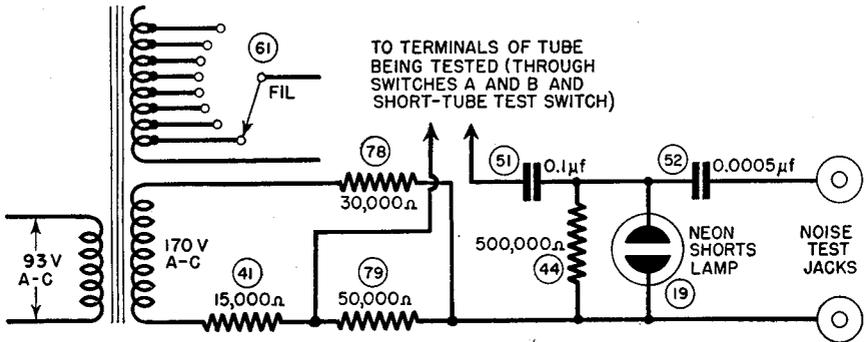

Figure 3. Tube Tester I-177, simplified noise and shorts test circuit.
**14. SHORT TEST (fig. 3).** Turning the SHORT-TUBE TEST switch through positions 1, 2, 3, 4, and 5 connects various pairs of tube electrodes in turn across the test terminals of the circuit. Tubes having shorts between elements complete the circuit and apply transformer voltage to neon SHORTS lamp 19, causing it to glow. Good tubes do not complete the circuit, and the lamp does not glow. Switches A and B (not shown) provide the proper tube socket connections for the tube under test, and the FIL. switch connects the tube filament to the correct tap on the filament winding.
**15. NOISE TEST (fig. 3).** This circuit is also used for making a noise test of vacuum tubes. With the antenna and ground terminals of a radio receiver connected to the NOISE TEST jacks, any intermittent short between tube electrodes momentarily permits alternating voltage from the power transformer to be applied to the neon lamp, causing a brief oscillation that will be reproduced as an audible signal in the receiver speaker.